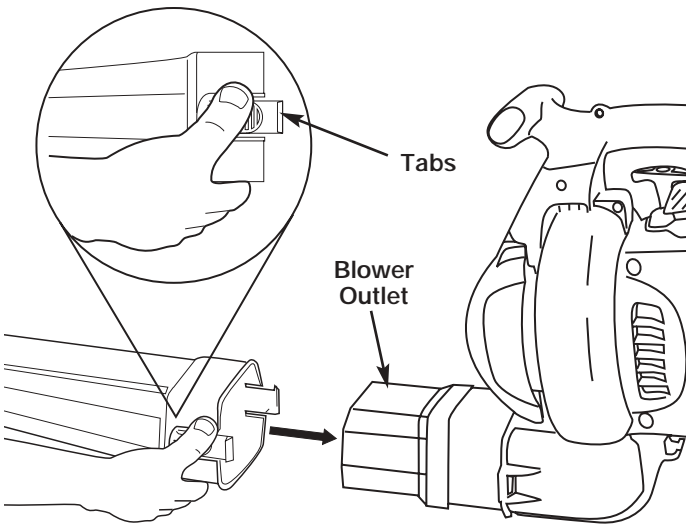

Fig. 1
- Install the blower tube over the blower outlet and push it on until both tabs snap into place (Fig. 1).
- Remove the blower tube by pressing both tabs at the same time and pulling off the blower (Fig. 1).